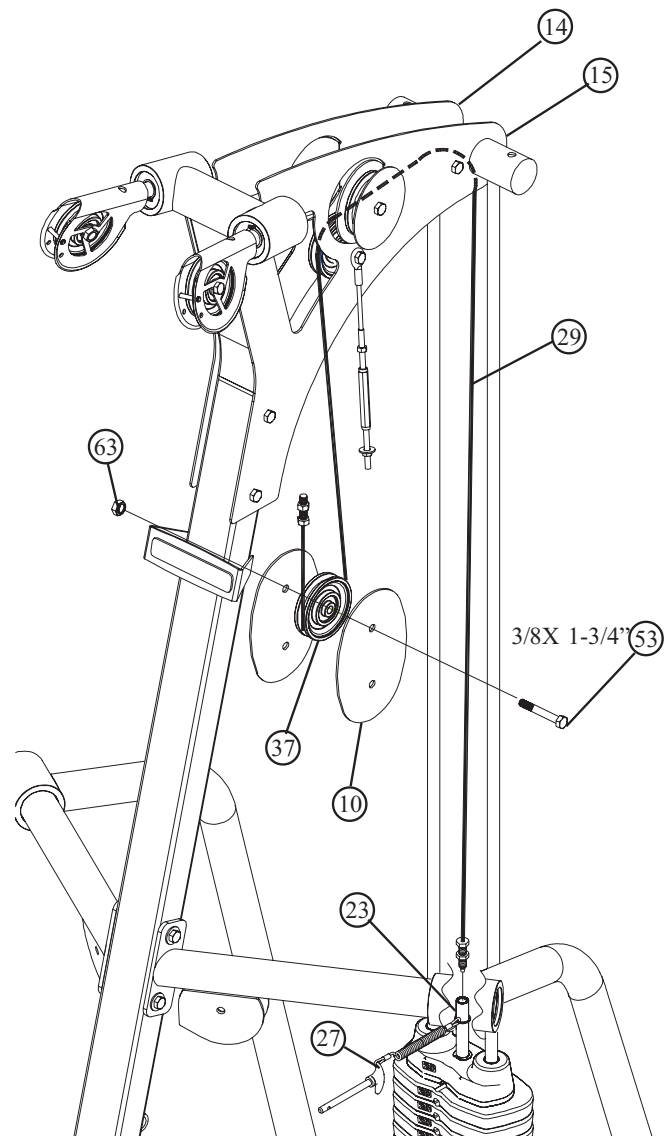

FIGURE 10
- Assemble the WEIGHT STACK PIN (27) to the HEAD PLATE ASSEMBLY (23) as shown in Figure 10.
- Screw the long threaded end of the WEIGHT STACK CABLE (29) into the end of the HEAD PLATE ASSEMBLY (23). See Figure 10.
- Route the WEIGHT STACK CABLE (29) around the pulleys in the RIGHT and LEFT BOOM PLATES (14 & 15) as shown in Figure 10.
- Assemble the two PULLEY PLATES (10) around one 3-1/2" PULLEY (37), using one 3/8 x 1-3/4" BOLT (53) and one 3/8" SILVER LOCK NUT (63) as shown in Figure 10.